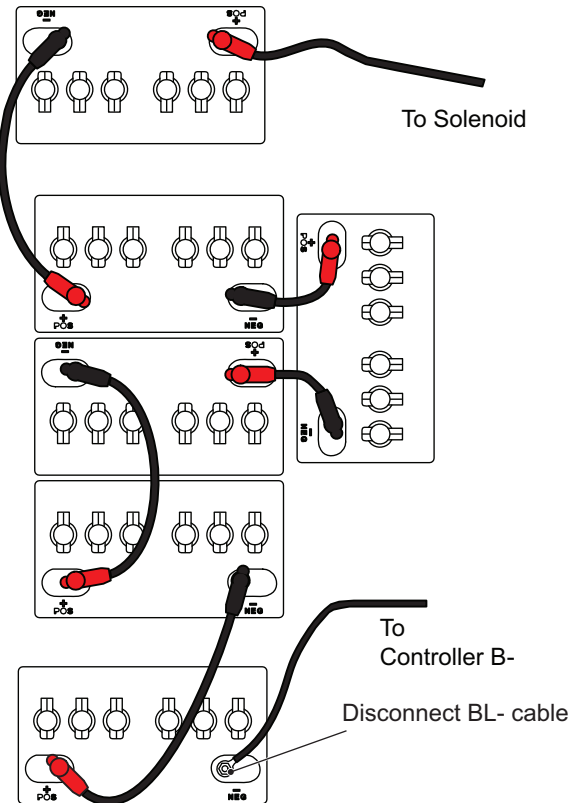

Fig. 2 Battery Connections
1. Place the batteries (3) in the battery racks.
2. Install the battery hold downs (2) and battery bracket (1) with the hold down bolts (4).
3. Tighten the lock nuts (6) to torque values below, tight enough to prevent movement of the battery but not tight enough to cause distortion of the battery cases.
6. Connect the battery wires as shown (Ref Fig. 2). Be sure that all battery terminals are installed with the crimp upward.